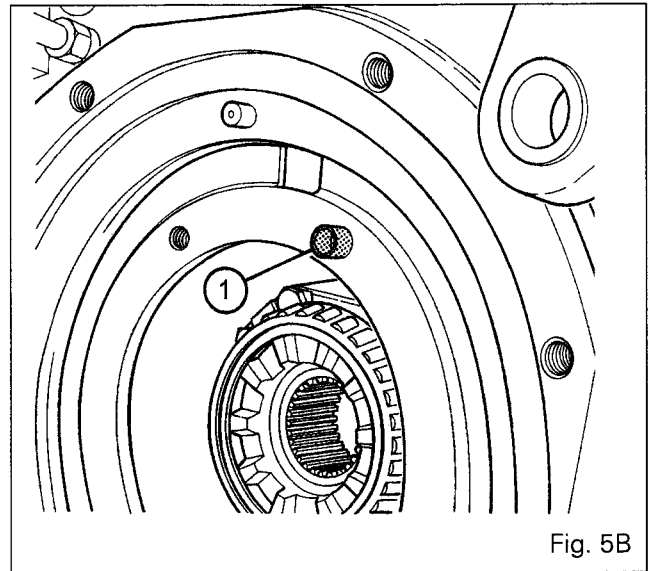

Fig. 5B
**Note: As from serial number E3216019, each bearing face on the differential carriers is fitted with a centring bush (1) (Fig. 5B) so the centring device "C" need not be used.**